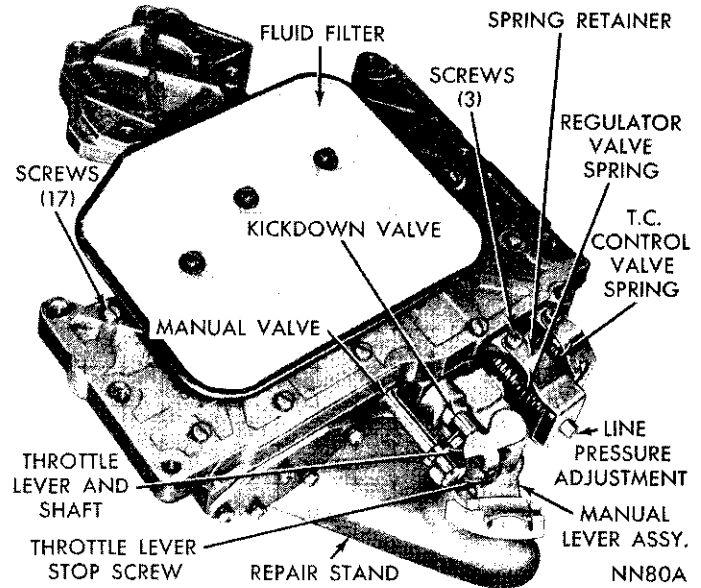

Fig. 41—Valve Body and Control Assembly
(1) Place valve body assembly on repair stand, Tool C-3749, (Fig. 41). Remove three screws from fluid filter and lift off the filter.
(2) While holding spring retainer firmly against the spring force, remove the three bracket retaining screws (Fig. 41).
(3) Remove the spring retainer, torque converter control valve spring, and regulator valve spring with line pressure adjusting screw assembly. Do not alter setting of line pressure adjusting screw and nut. The nut has an interference thread and does not turn easily on the screw.
(4) Slide regulator valve out of valve body. Slide torque converter control valve out of valve body.